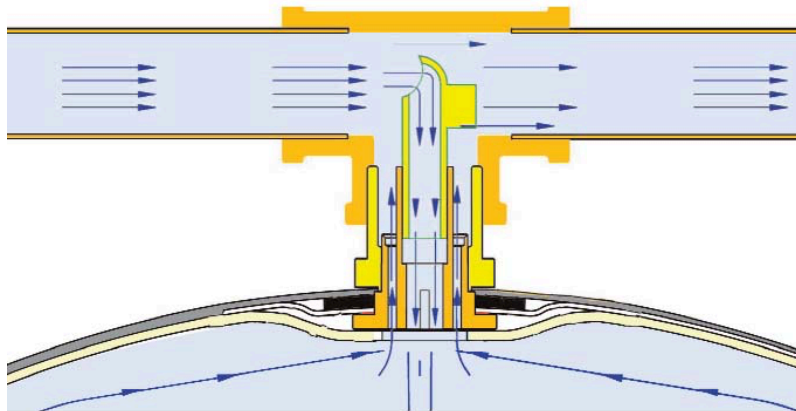

Figure 25. Flow-Thru pressure tank connection
pump is running (Figure 25). This constant flushing action ensures that the water in the tank remains fresh.
- Figure 25. “Flow-Thru pressure tank connection” from Flexcon Industries is used for educational purposes under the basis of fair dealing.